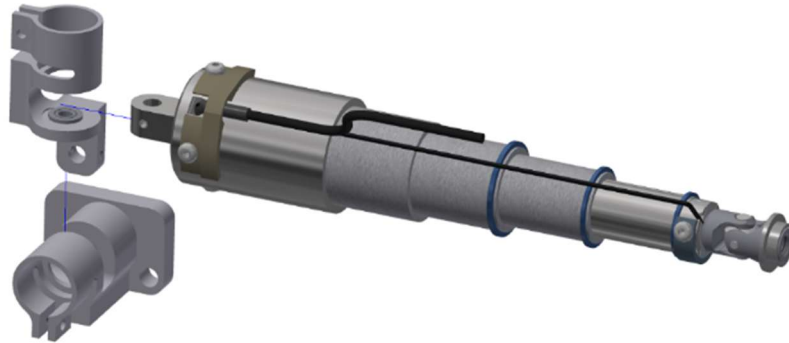

Figure 5-26. Separate IR-TRACC components
- 5.2.21 Separate the IR-TRACC (SA572-S122), IR-TRACC Base (474-3754-1 and 474-3754-2), and IR-TRACC Arm Mounting Bracket (474-3755 and 474-3756) per assembly (Figure 5-26).
- 5.2.26 Separate the IR-TRACC, IR-TRACC Base (474-3762), and IR-TRACC Arm Mounting Bracket (474-3763) per assembly (Figure 5-26).